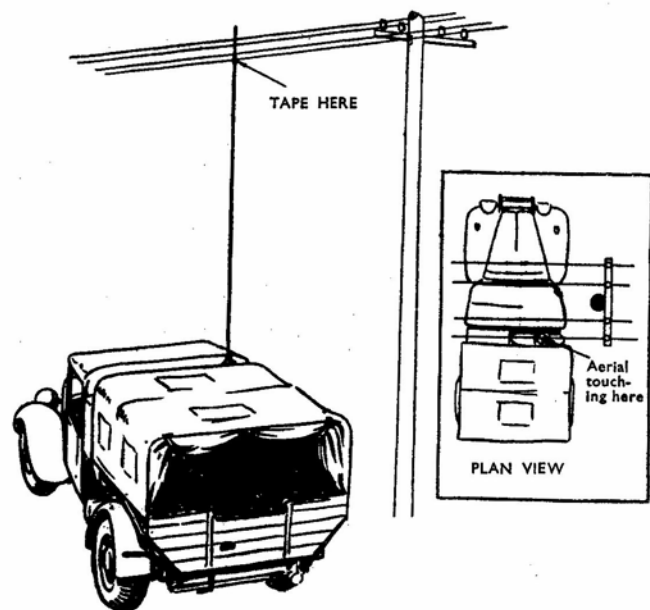

FIG 14.—An aerial in contact with one wire of a PL route for line assisted wireless
7. In practice it is most convenient to put a layer of insulating tape round the top section of the aerial and rest this section against the overhead wires. No pole climbing is then necessary, and searching down the route for the best operating position is facilitated (see Fig 14). There is no necessity to slope the aerial.